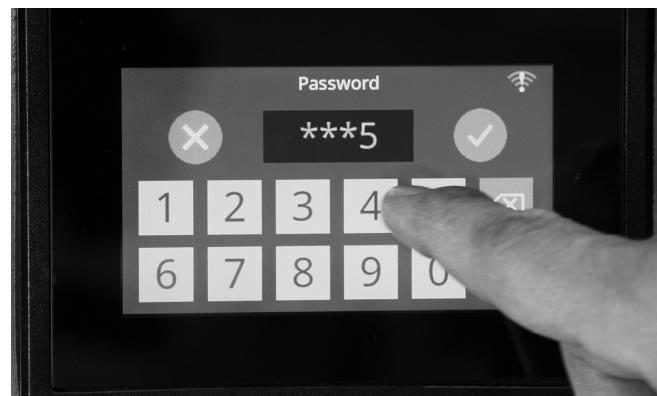

Figure 20
2. Enter the password by touching the numbers on the password screen. The password is: 6-7-8-5-3-5. This password is pre-set at the factory and is not changeable. (Figure 20)